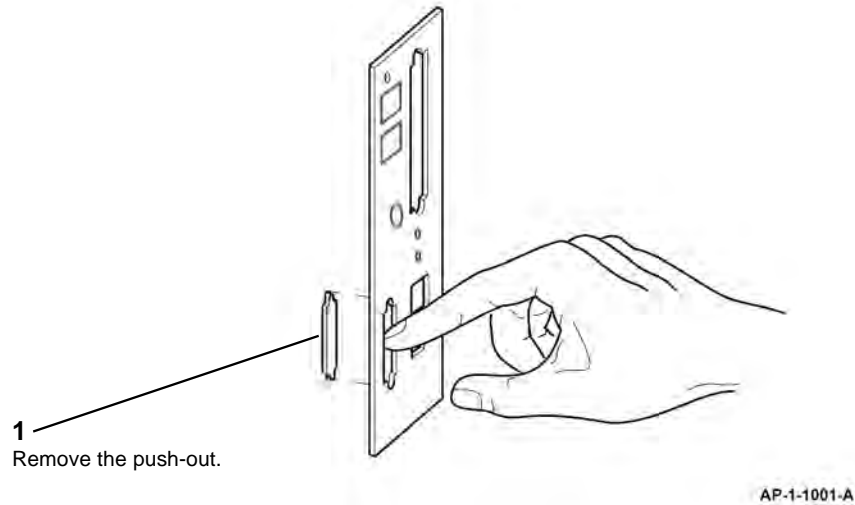

Figure 1 Push-out removal
4. Carefully remove the foreign device interface push-out from the PMO - connect paper MFP, Figure 1.